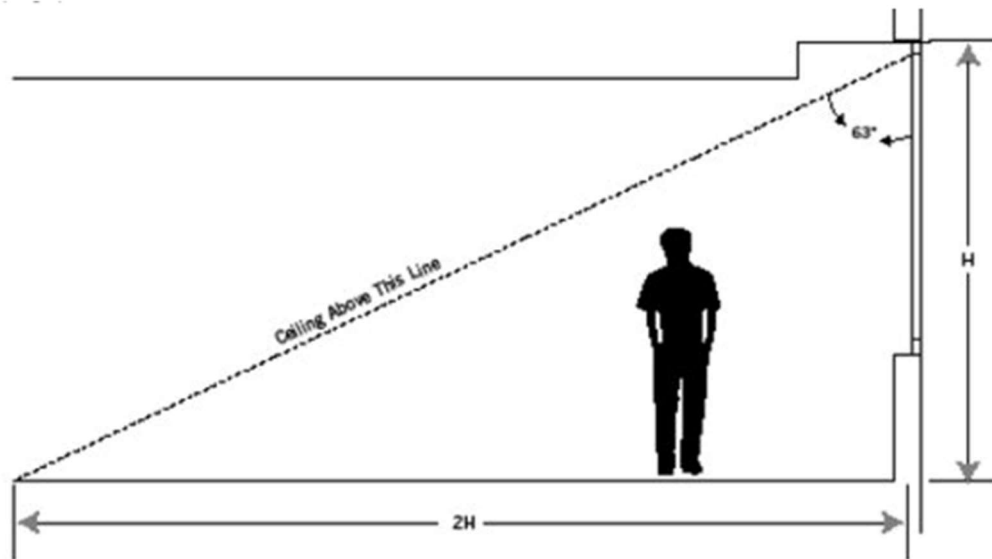

Figure 1
- In section, the ceiling must not obstruct a line that extends from the window-head to a point on the floor that is located twice the height of the window-head from the exterior wall as measured perpendicular to the glass (see Figure 1).
For EQ Credit 8.1 Solite Systems transparent and translucent partitions, walls, and doors improve the daylighting of space. They increase the amount of space that has illuminance levels of 25 fc from natural light while also providing glare control adaptable to each case. The sample plan in Figure 1 (Daylight and Views – view, EQc8.2) provide a similar explanation to the exact contribution of Solite Systems products as they did for EQc8.2. With the correct design of windows and office layout, implementing Solite System's products should increase the amount of space receiving 25 fc of natural daylight by 20% or more. In the sample plan scenario (Figure 1 Daylight and Views – view, EQc8.2), Solite System's products will take the project from barely achieving one point to more than qualifying for two points.